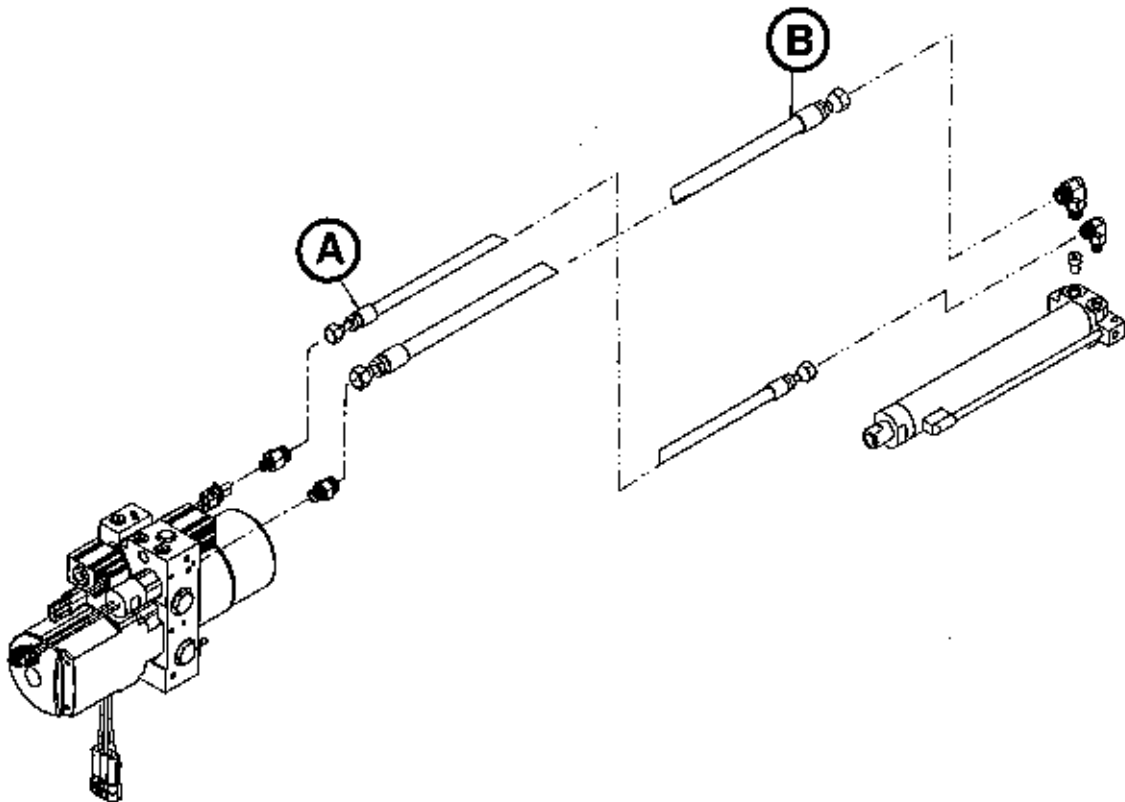

Figure 61
3. Using 11/16" and 13/16" combination wrenches, remove the damaged hose (A or B) (Figure 61).